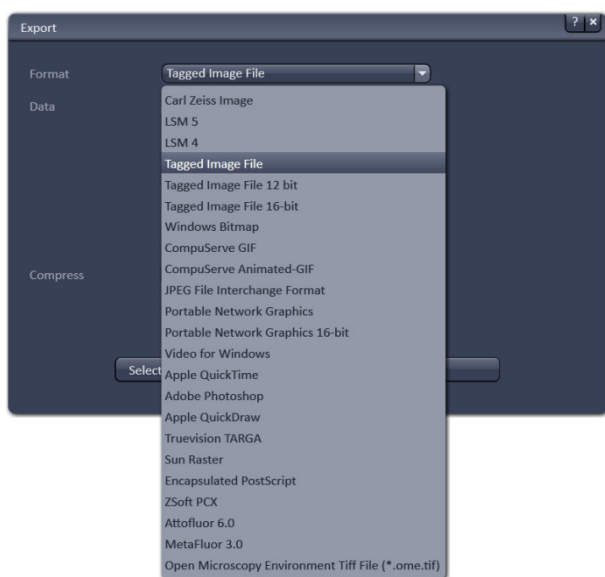

Fig. 771 Format selection
- Under **Format**, select the format to which the image is to be exported to (Fig. 771).